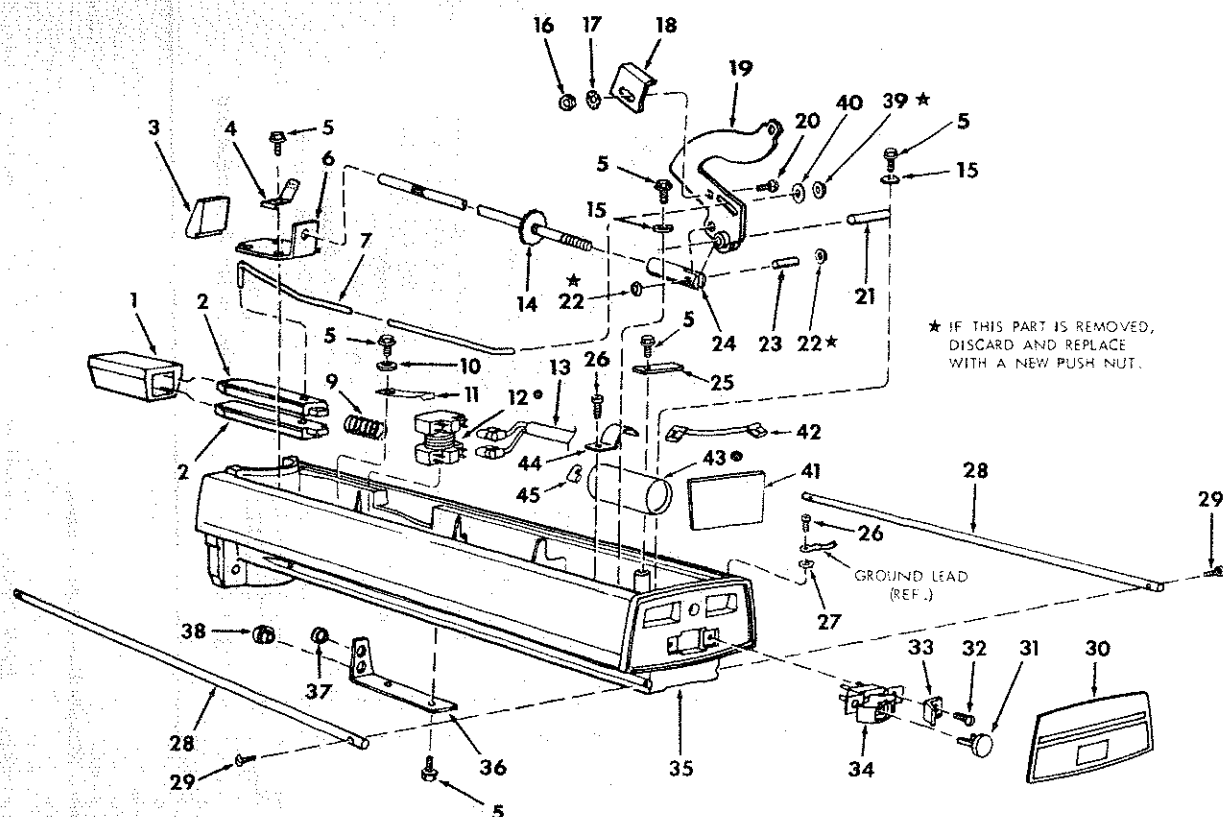

FIGURE 4 – ARM ASSEMBLY
* Any attempt to repair this motor may create a hazard unless repair is done by a qualified service technician. Repair service is available at your nearest Sears Store. Motor relay (See Fig. 4) must accompany motor when motor is returned for service.